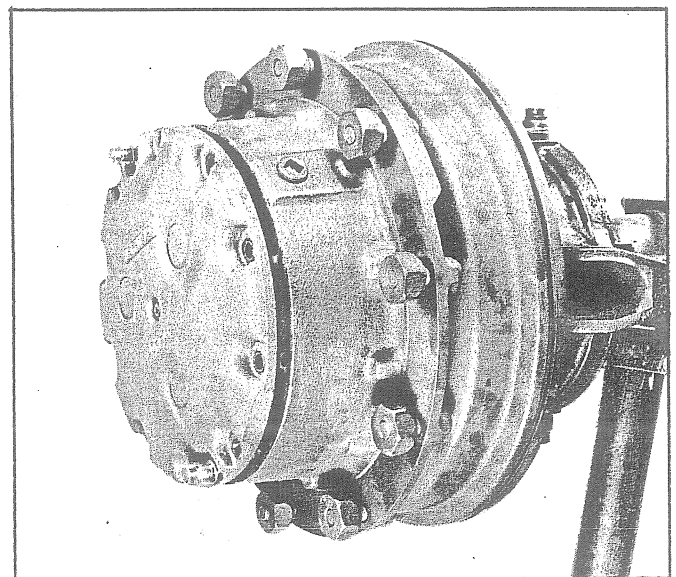

Fig. 77 - Separating Planetary from Hub
2. Remove the bolts and washers securing the planetary assembly to the axle hub. Screw two of the bolts into the puller holes and separate the planetary assembly from the hub as shown in Fig. 77.